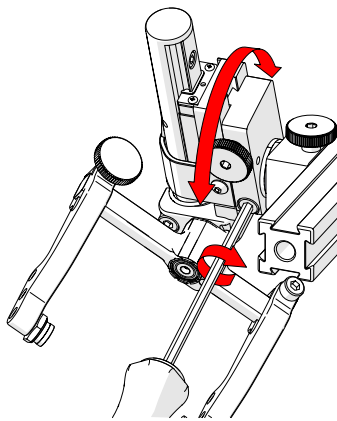

Fig. 135 - Rotate to position
3. Rotate the main body of the probe holder until it is at the desired angle (*Fig. 135*).
4. Tighten the longitudinal adjustment screw (*Fig. 135*).